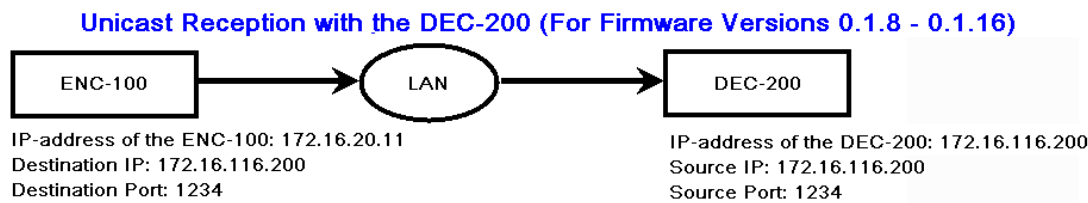

Figure 43: Unicast Reception (For Firmware Versions 0.1.8 - 0.1.16)
- Concerning all firmware versions from 0.1.8 till 0.1.16: For unicast reception you must enter in the 'IP address' field of the 'DECODER/SOURCE' webpage the IP-address of the DEC-200™, e. g. 172.16.20.200. See Figure 43.